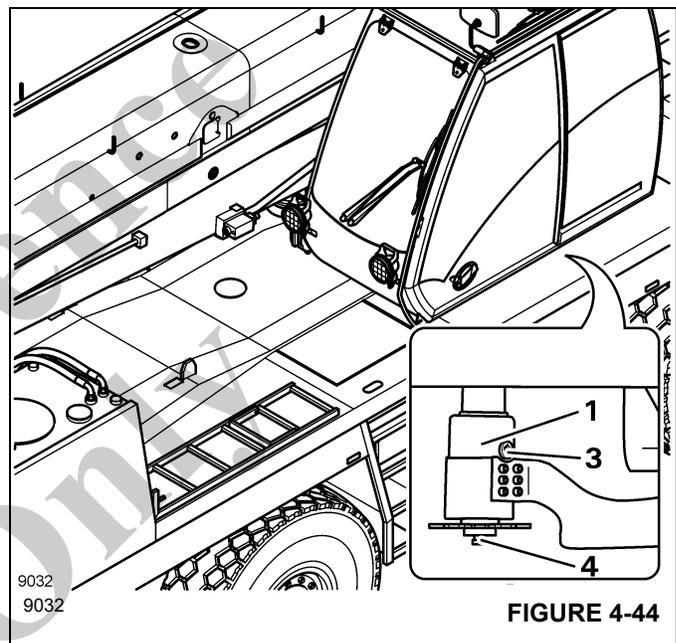

FIGURE 4-44
Depending on the equipment on your crane, there is a swing angle sensor (1), (Figure 4-44) under the crane cab.
- Remove the seal (3), (Figure 4-44) from the opening.
- Remove the protective cap from the lubricating nipple (4), (Figure 4-44).
- Place the protective cap onto the lubricating nipple (4), (Figure 4-44).
- Screw the seal (3), (Figure 4-44) back on with a new sealing ring and new sealing agent. Tightening torque; see *Torque Values*, page 1-9.